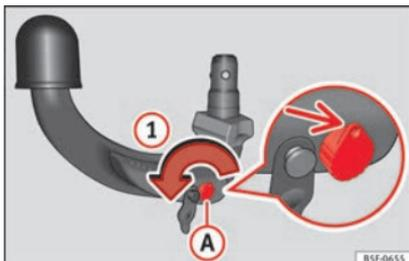

Fig. 233 Step 1.
- Turn the key in the direction of arrow ① until the part of the key with the holes reaches the top position » Fig. 233.